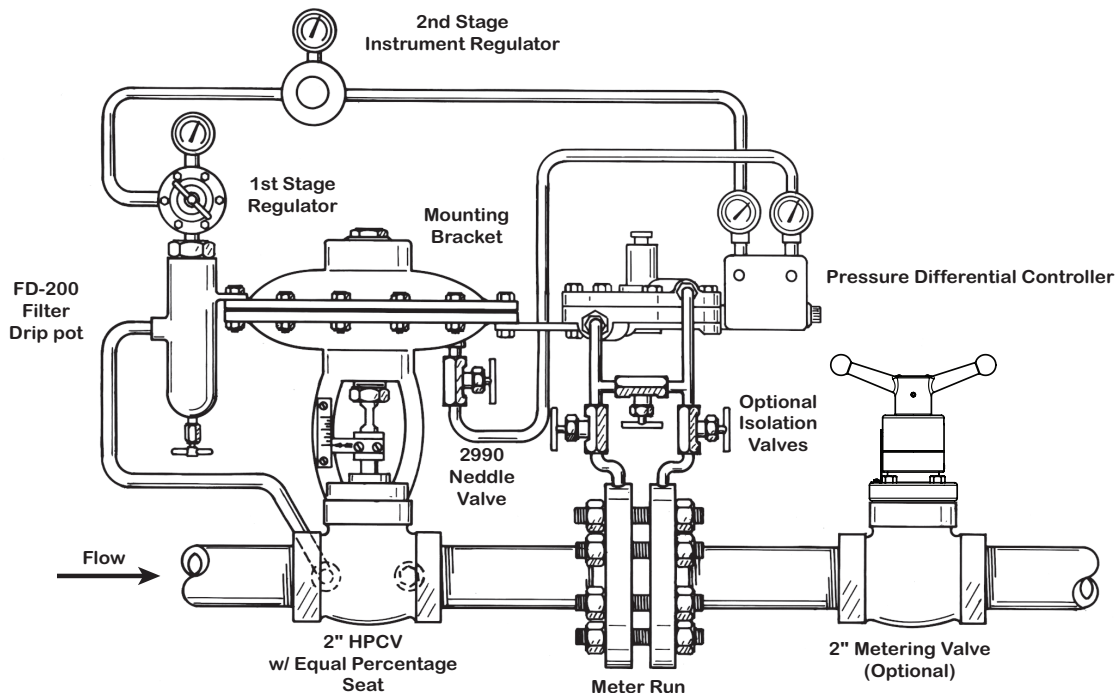

Figure 1
5. Connect a dry instrument gas source (20-30 psig) to the pilot supply and connect the control tubing to the valve. A needle valve on this line is sometimes helpful in stabilizing the motor valve / controller system. (See Fig.1)